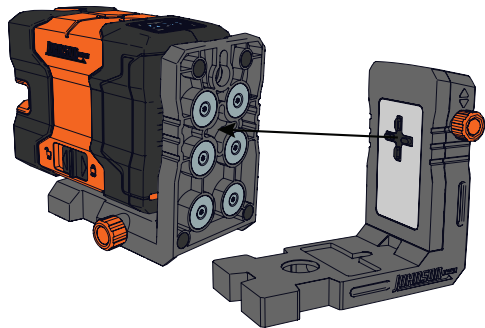

Figure 11
1. To attach the optional base accessory to the unit, place the unit's magnets on the metal plate, making sure the locking tabs snap into place on the rear of the laser base. (Figure 11)